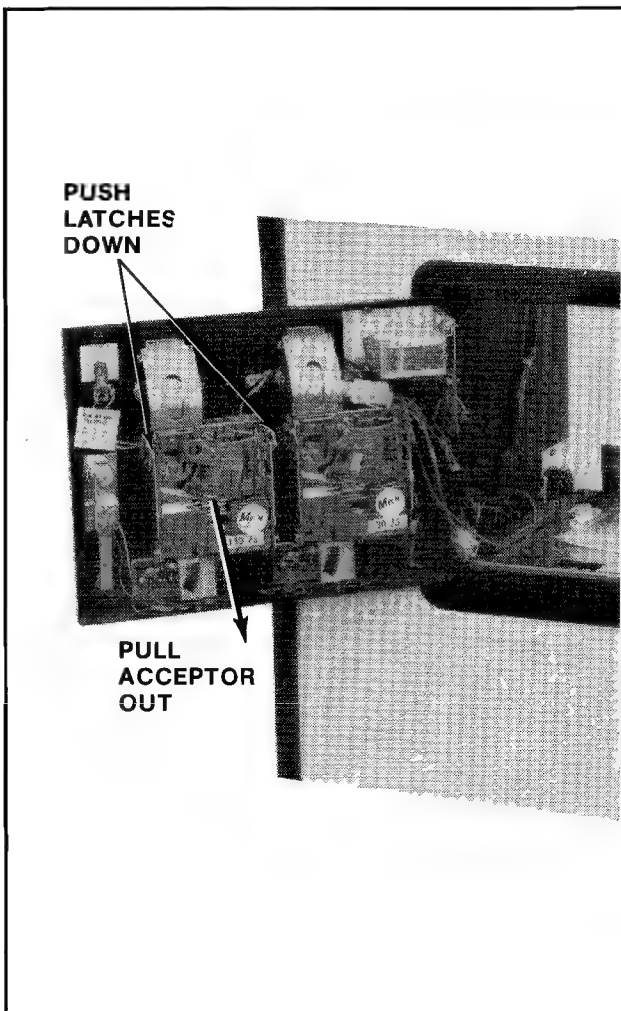

Figure 32 Removing coin acceptor
3. Remove the coin acceptor mechanism as shown in Figure 32.
3. Remove the coin acceptor mechanism(s) as shown in Figure 32.